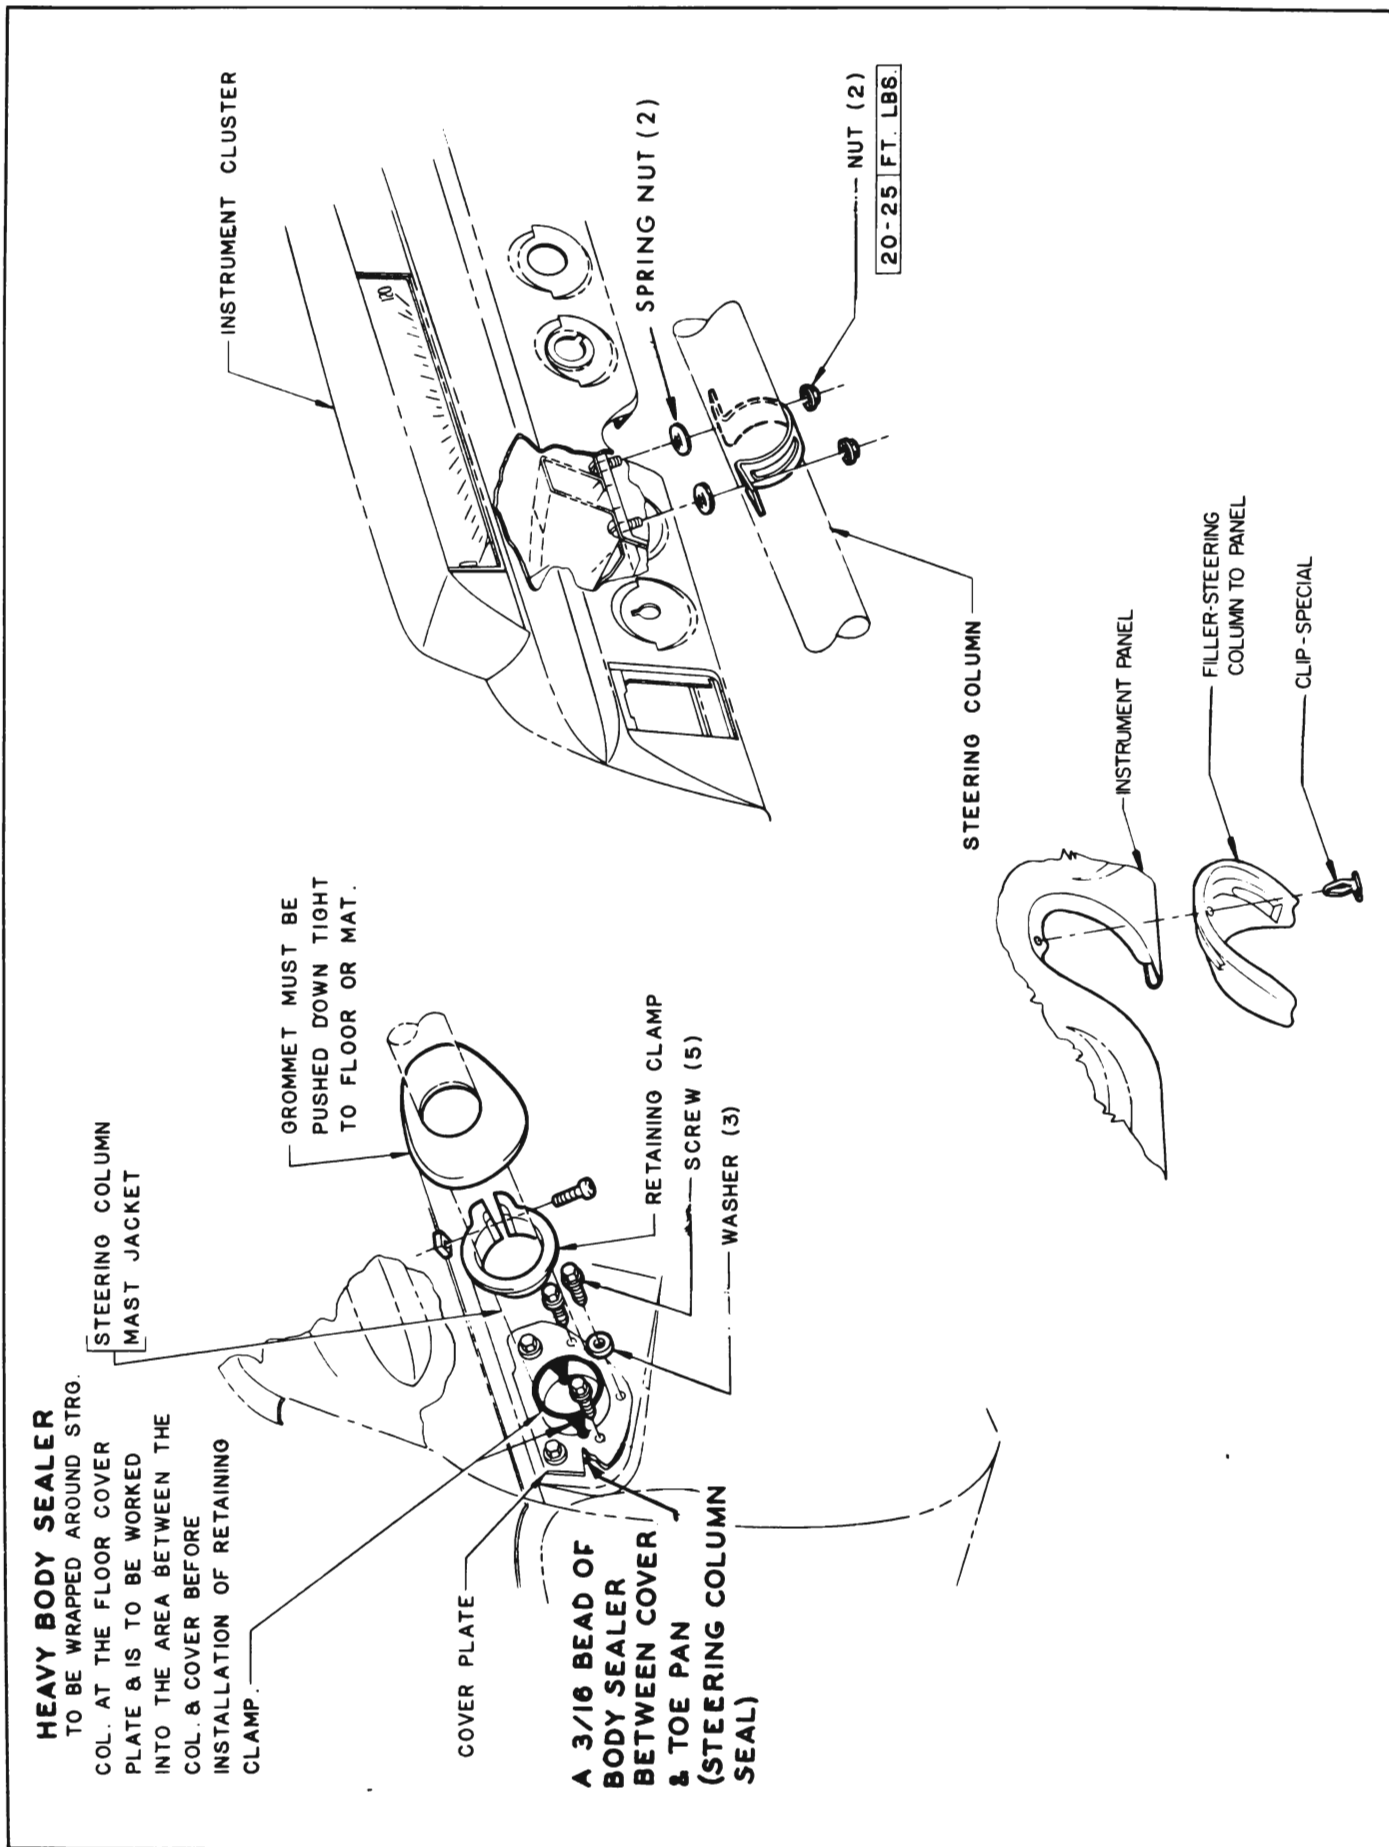

Figure 8-80—Mast Jacket Installation
3. Remove the screws that retain toe pan cover plate to cowl. See Figure 8-80.